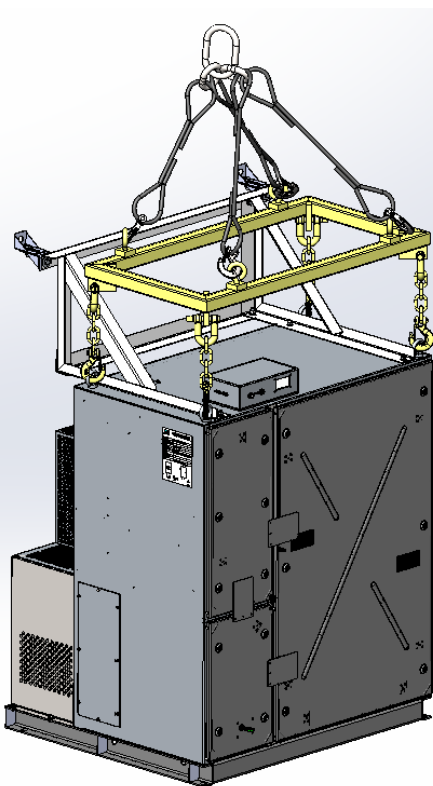
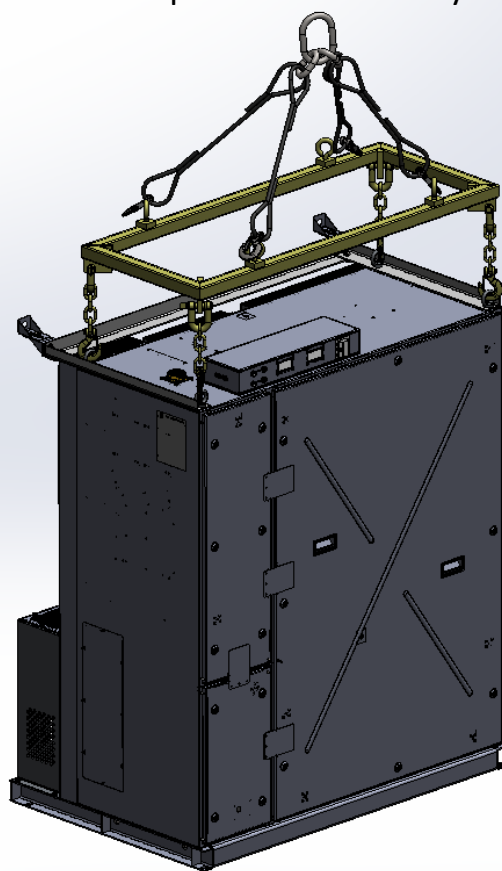

Fig 5.2: BOX1 Lifting arrangement
Fig 5.3: BOX2 Lifting arrangement
- Attach the auxiliary converter lifting tackle (D-shackle) to the converter as shown in **Fig 5.2 & Fig 5.3**.